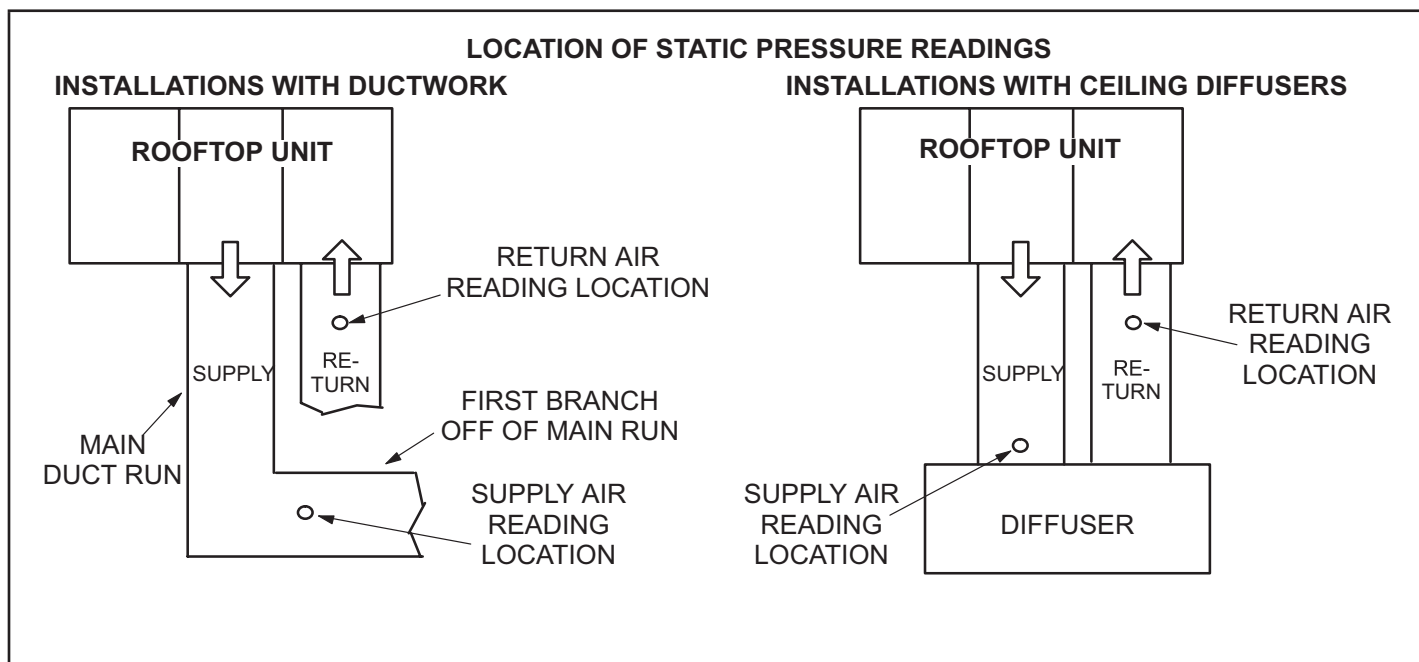

FIGURE 12
- 2 - With all access panels in place, measure static pressure external to unit (from supply to return). See FIGURE 12.
All electric heat sections consist of electric heating elements exposed directly to the air stream. See figure 12. EHA parts arrangement is shown in figures 12 and 13. Multiple-stage elements are sequenced on and off in response to thermostat demand.